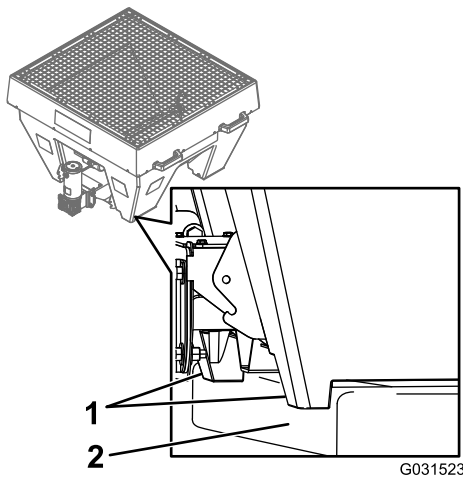

Figure 5
3. Slide the spreader toward the vehicle cab until the slide stop feet hit the utility vehicle bed (Figure 5).